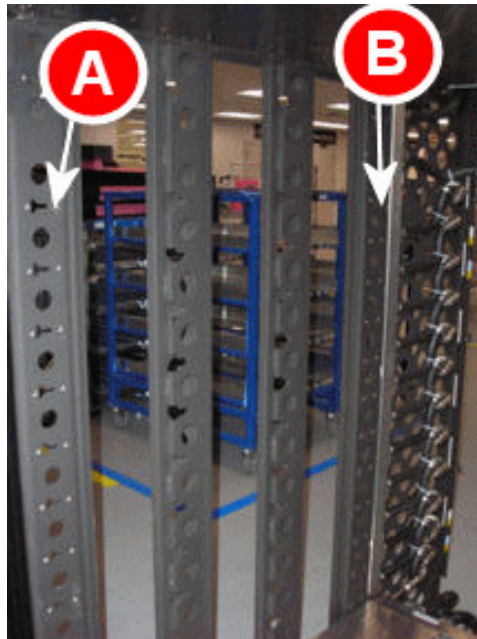

Figure 32 Rack features for Slide/Rail installation
- a) Facing the front of the Rack, position the left side rail guide pins with the appropriate key slots (**A**) and (**B**) on the Rack. See Figure 32.